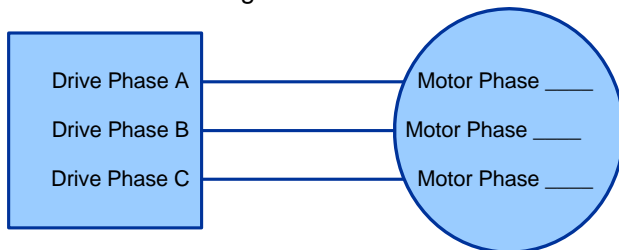
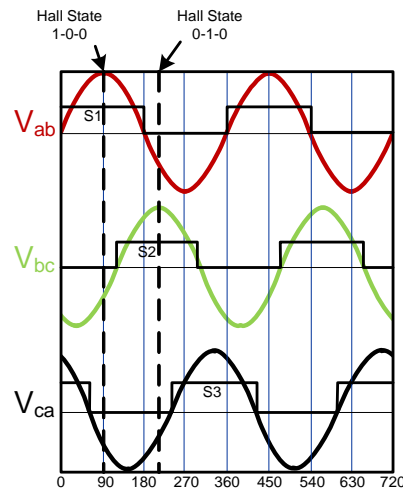

Figure 1: Phasing of Motor Windings
Figure 2: Sample Back EMF and Hall State Motor Phasing Diagram
2. Based on the above waveform, place the letter corresponding to the high volt phase next to Drive Phase C in Figure 1.
3. Place the letter corresponding to the low volt phase on the above waveform next to Drive Phase A in Figure 1.
4. Place the letter corresponding to the remaining phase next to Drive Phase B in Figure 1.
6. Compare the high volt phase indicated on the 0-1-0 waveform to the phase corresponding to Drive Phase A in Figure 1. If these do not match, switch the motor phases corresponding to Drive Phases A and C in Figure 1.
7. Connect the motor phase wires to your Advanced Motion Controls drive as indicated in Figure 1.
For this example, refer to Figure 2 for motor phasing information. Note that in Figure 2, Hall Sensors are labeled S1, S2, and S3, and motor phases are Motor A, Motor B, and Motor C. The back EMF labels V_{xy} refer to the voltage level of motor phase x with respect to motor phase y. Therefore, when V_{ab} is at a peak value, phase A is high and phase B is low.
It can be seen in Figure 1 that for the hall state 1-0-0, V_{ab} is at its peak. Thus, phase A is high, and phase B is low. Place motor phase B next to drive phase A, and motor phase A next to drive phase C. The remaining phase, motor phase C is placed next to drive phase B. According to the sample diagram in Figure 2, for hall state 0-1-0, V_{bc} is at its peak, therefore phase B is high, and phase C is low. Since phase B is the motor phase, which corresponds, to drive phase A, the combination has been confirmed. If motor phase B did not correspond to drive phase A, we would switch the motor phases which correspond to drive phases A and C.